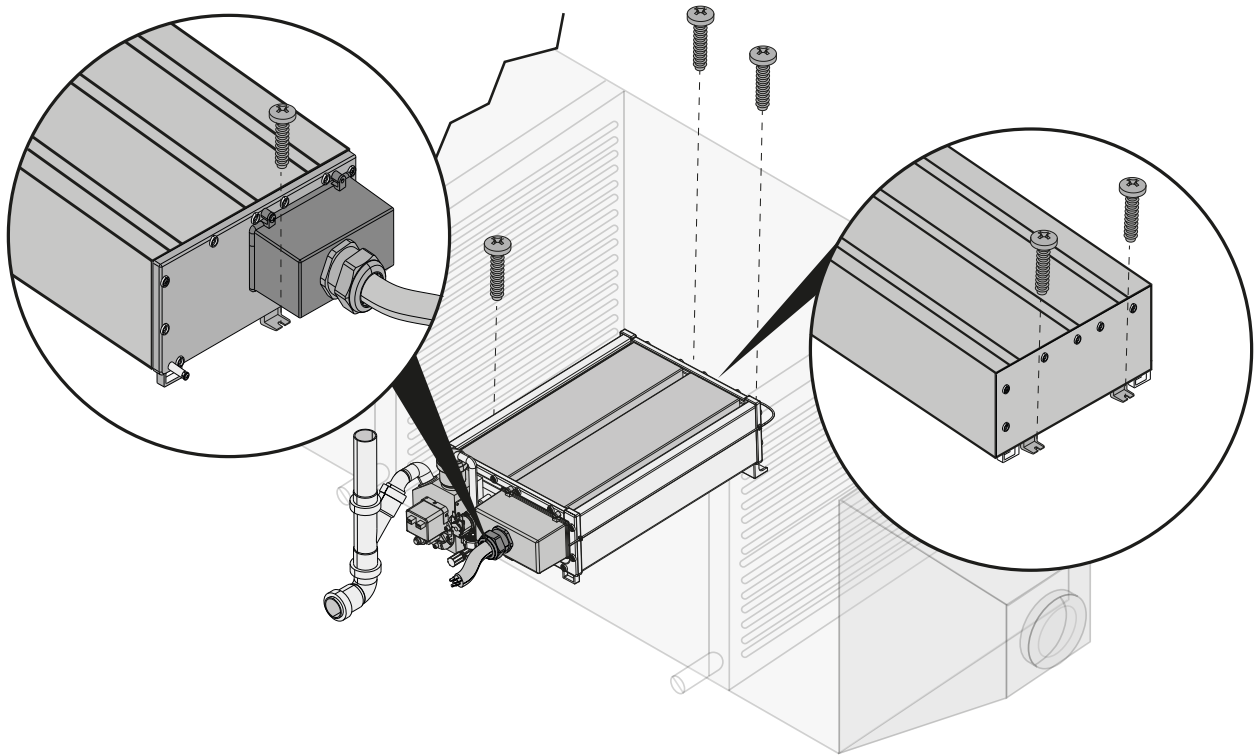

Fig. 7. Hydraulic unit installation
- Secure the hydraulic unit with 3 screws inserted into the anchoring hooks (see **“FIG. 7. HYDRAULIC UNIT INSTALLATION” ON PAGE 17**) (not mandatory);